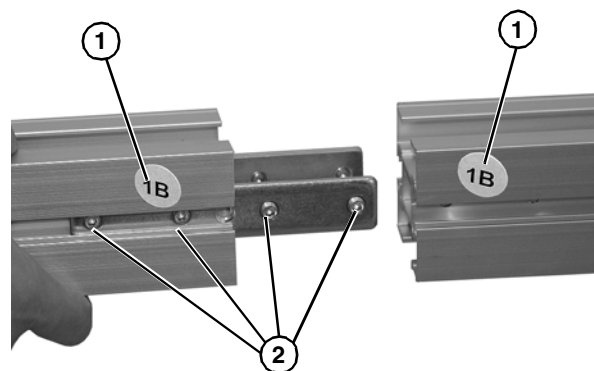

Figure 4
1. Locate and arrange conveyor sections by section labels (Figure 4, item 1).
2. Join both conveyor sections, and tighten two set screws (Figure 4, item 2) on both sides. Tighten all set screws 1/4 turn past contact with frame.